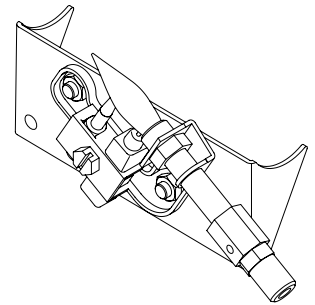
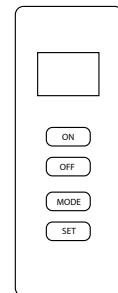

Fig. 18 - Pilot
Fig. 19 - Remote
6. With control knob depressed, push down on the ignitor button until the pilot lights. The pilot is located behind the fireplace screen, centered near the rear of the burner (See Fig. 18).
7. Keep control knob depressed for (30) seconds after pilot lights. Release control knob.
- If pilot goes out repeat steps 3 through 7. Wait (1) minute before attempting to light pilot again. If after several tries the pilot still goes out, turn the gas control knob clockwise  to the “OFF” position and call a qualified service technician.
9. To use the included thermostatic remote control, set receiver switch to the “REMOTE” position (See Fig. 19). Press the ON button to turn on the remote to ignite the main burner. Refer to the remote control instruction manual on the next page for “MODE” and “SET” functions.